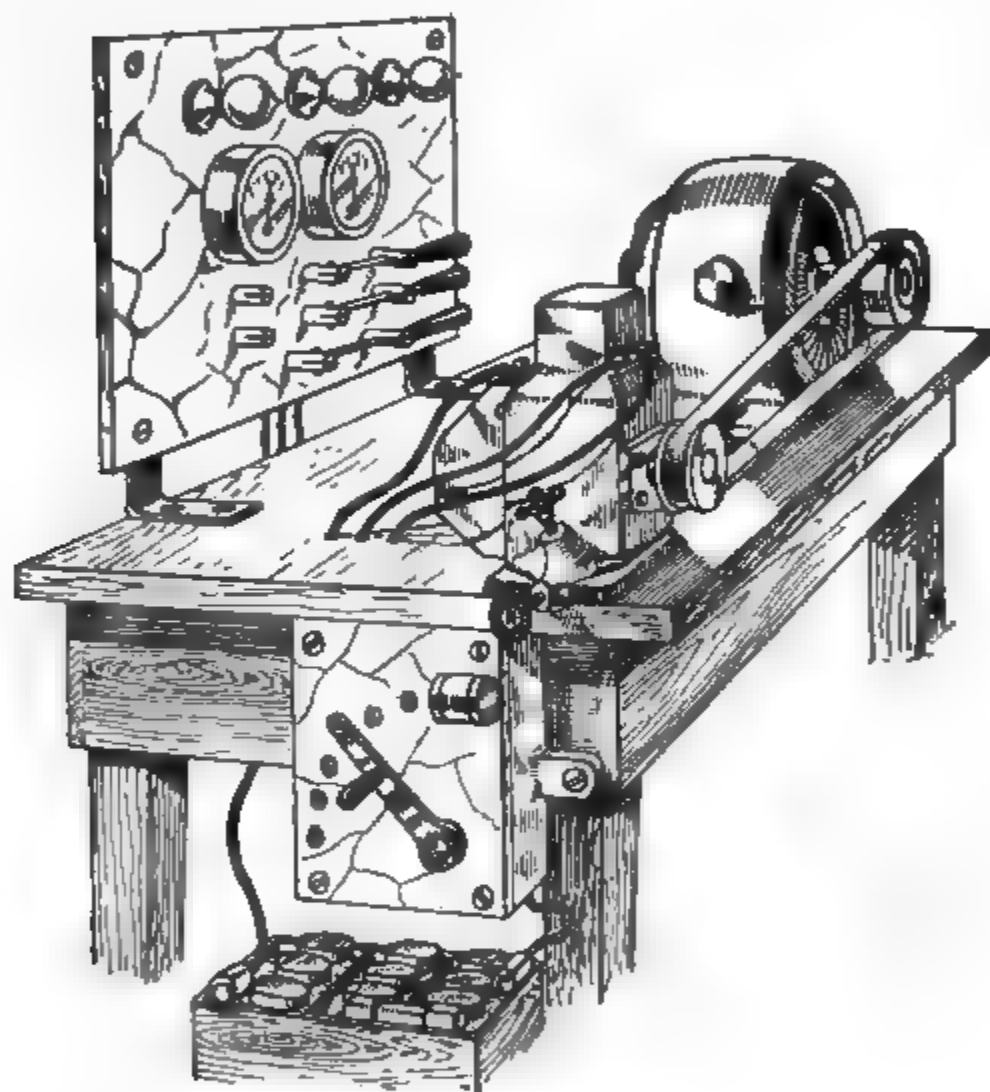
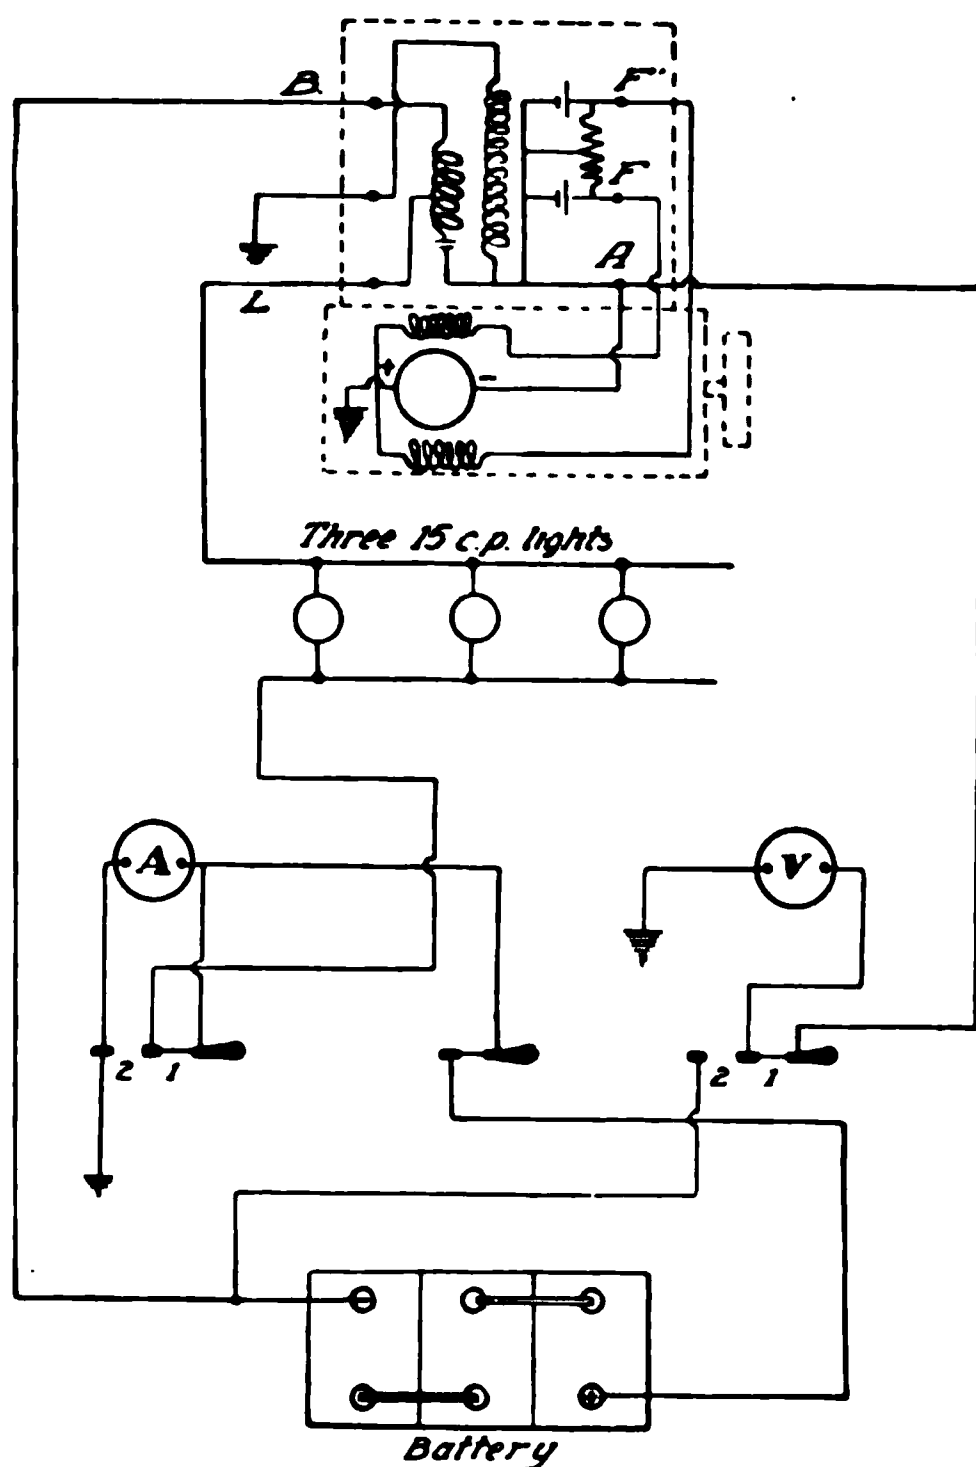

Fig. 288. Diagram of Layout for Testing Gray & Davis Generator
Fig. 289. Wiring Diagram for Gray & Davis Dynamo and Regulator
(1) Ammeter reading to 400 amperes. (2) One spring scale reading to 20 pounds. (3) One single-pole single-throw switch of 200-ampere capacity. (4) Steel clamp and base for motor. (5) One 6-inch flanged iron pulley. (6) Sufficient No. 1 flexible cable for connections.
*Generator Test Chart.* In order to enable the tester to check the performance of the generator, the test chart, Table III, has been supplied. The method of mounting the  $\frac{1}{2}$ -h.p. motor, switches, instruments, rheostat, and storage battery is shown in Fig. 288, while the wiring diagram showing the method of connecting up the various units is illustrated in Fig. 289. Referring to the test chart, Table III, column 1 gives the types of generators manufactured by Gray & Davis. To determine the type number, it is necessary to note only the first three numbers on the name plate. For instance, 2221541 indicates type 222, machine 1541. This applies to all machines of this make turned out since September, 1915.